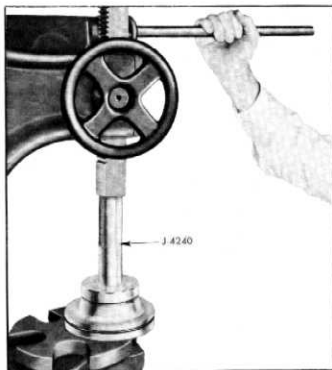

Fig. 100—Installing Pump Body Oil Seal
7. If oil seal is damaged or is leaking, pry out and install new seal using seal driver J-4240 (fig. 100).